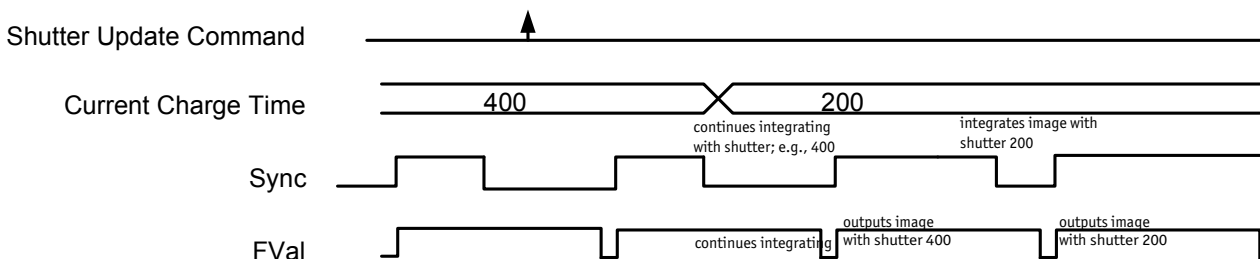

Figure 83: Former standard timing
- The delay from shutter update until the change takes place: up to 3 frames. Figure 83: on page 149 demonstrates this behavior. It shows that the camera receives a shutter update command while the sensor is currently integrating (Sync is low) with shutter setting 400. The camera continues to integrate and this image is output with the next FVal. The shutter change command becomes effective with the next falling edge of sync and finally the image taken with shutter 200 is output with a considerable delay.